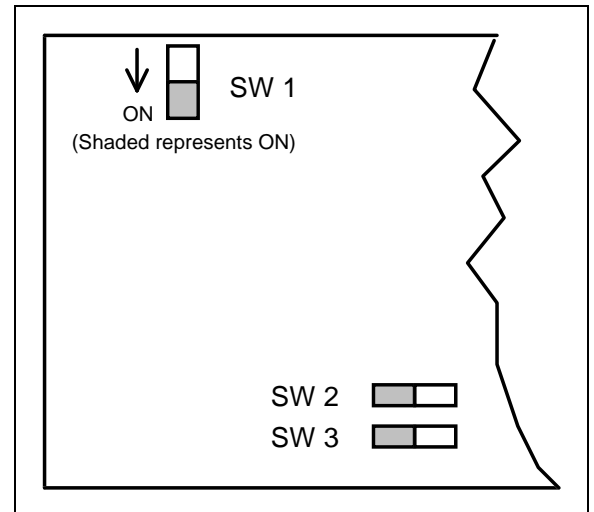

Figure 8 - RIC Board Switch Locations
At the time of installation, the RIC address must be set to match the channel number of the associated repeater. This involves setting the eight section DIP switch SW4 to the binary number equivalent of the associated repeater channel number. The switch positions are arranged in binary digital weight. Therefore, the sum of the switch positions equals the channel number of the repeater selected. For example, if switches 1 & 3 were selected, the channel number selected would be 5. See Figure 8 RIC Board Switch Locations.
3. Refer to Figure 8 for the location of SW1 thru SW3. Verify SW1 thru SW3 switch positions as follows: